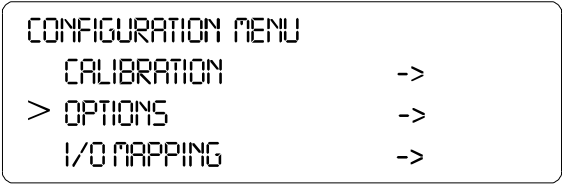

FIG. 132: CONFIGURATION MENU/SELECTING OPTIONS
- Step 2. Push the up or down arrows until the cursor is next to “OPTIONS”. (See Fig. 132)